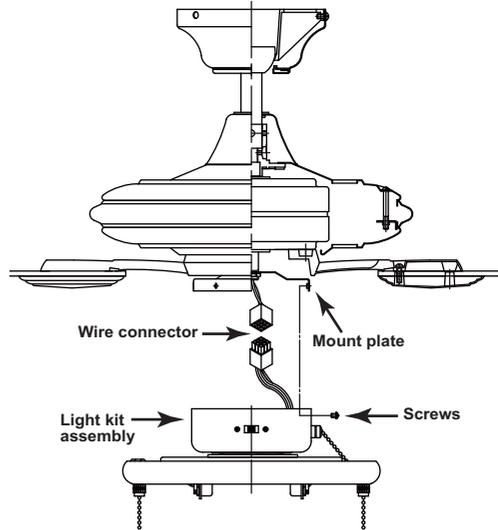

Figure 19
2. While holding the switch housing under your fan, snap together the wire connection plug. (Fig. 19)
3. Raise the light kit assembly to the mounting plate until the holes in switch housing and mounting plate line up. Reinsert screws to secure in place. (Fig. 19)